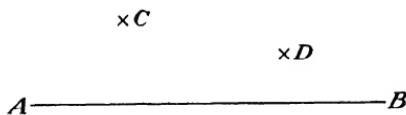

Fig. 131
- In your notebook draw any diagram similar to Fig. 131. Draw a line through C parallel to line AB .
- Draw lines through D and E , each parallel to line AB , in Fig. 131.
- Draw a perpendicular from E in Fig. 131 to line AB .